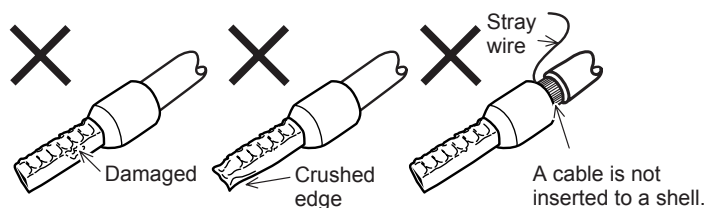

Figure 5.18 Example of incorrect bar terminal crimp
- 4) Check an appearance of the bar terminal after crimping it. Do not use the terminal if it is not crimped properly or the side is damaged (refer to Figure 5.18).